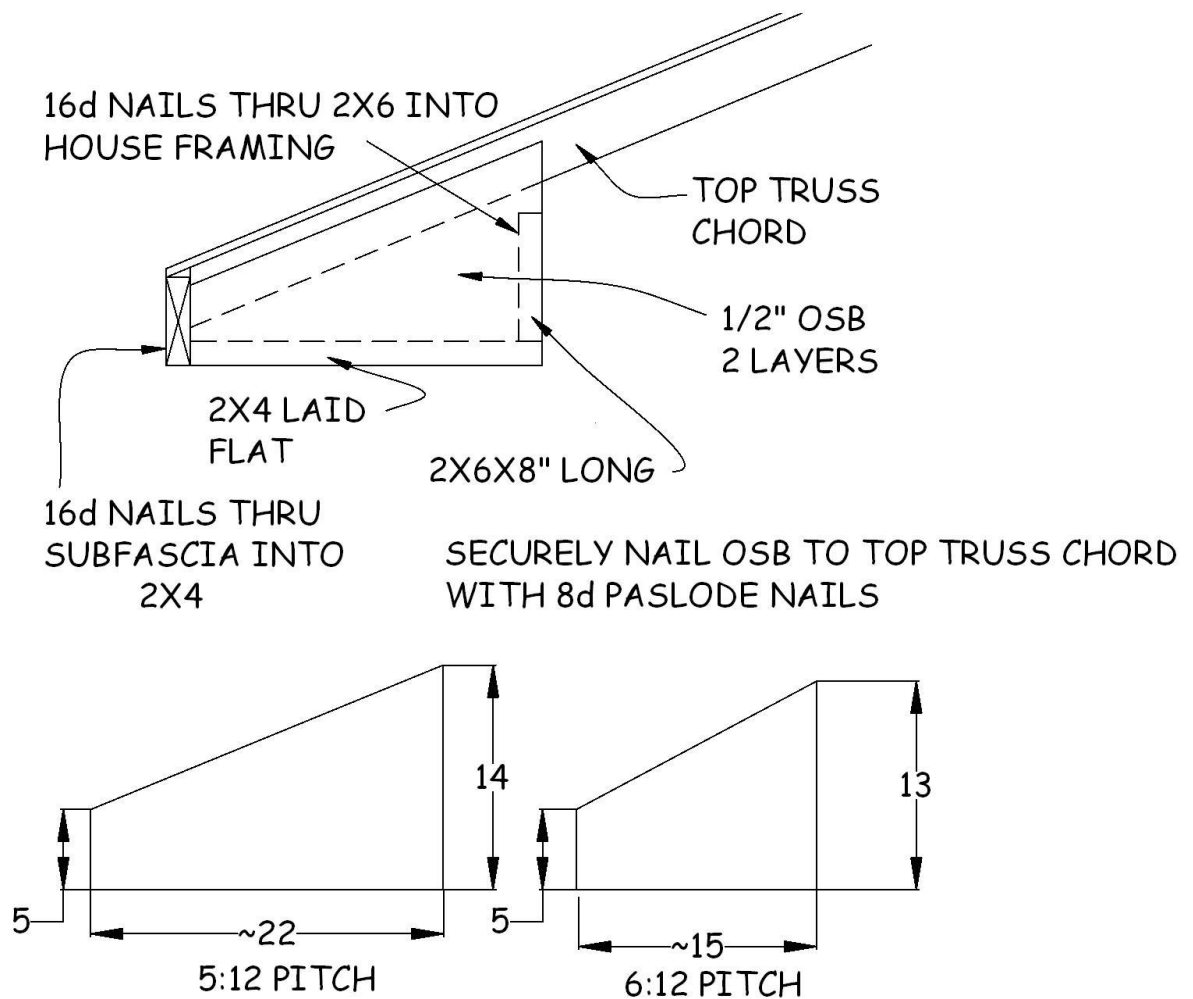

Figure 11-2. Gable End Corner.
2. Gable end corners are built using two layers of ½" OSB. Refer to Figure 11-2. For 5:12 pitch roofs (most common) take some scrap OSB (two pieces for each corner), at least 14" wide, and as long as the measurement determined in Step 1 above (e.g. 22" length). From the nominal 22" length side, measure up from one edge of the OSB 14" and make a mark. Measure up the other edge 5" and make a mark. Draw a line to connect these two marks, stack the two pieces with two edges on the desired piece aligned, and cut.
7. Stack (sandwich) the two pieces of OSB together so the two right angle edges are flush with frame. Nail the two pieces of OSB to the 2x4 and the 2x6 with six 2⅜" Paslode nails, using either factory edges or a framing square to keep the pieces square to each other. See Figure 11-2.